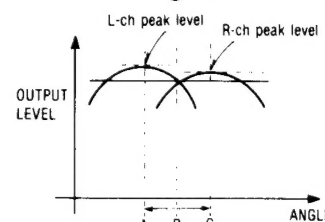

Fig. 4
| 2 | 1 → 2 | Front panel assembly and mechanism unit | <ul style="list-style-type: none"> • 2 screws(C) • 2 screws(D) • 2 screws(F) • Pull out the connectors H M(G) • How to remove flat cable(H) • As shown in fig. 4, hold the slide knob (A) with the fingers on one side, and releasing it by using a screwdriver on the other side. | 5, 6 7 7 3 3 4 |